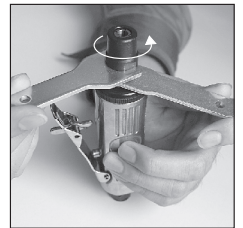

Figure 1
2. Loosen the collet fixing cap (Part #29) counterclockwise with one wrench while holding the other wrench on the flats of the collet base (Part #25). (See Figure 1)